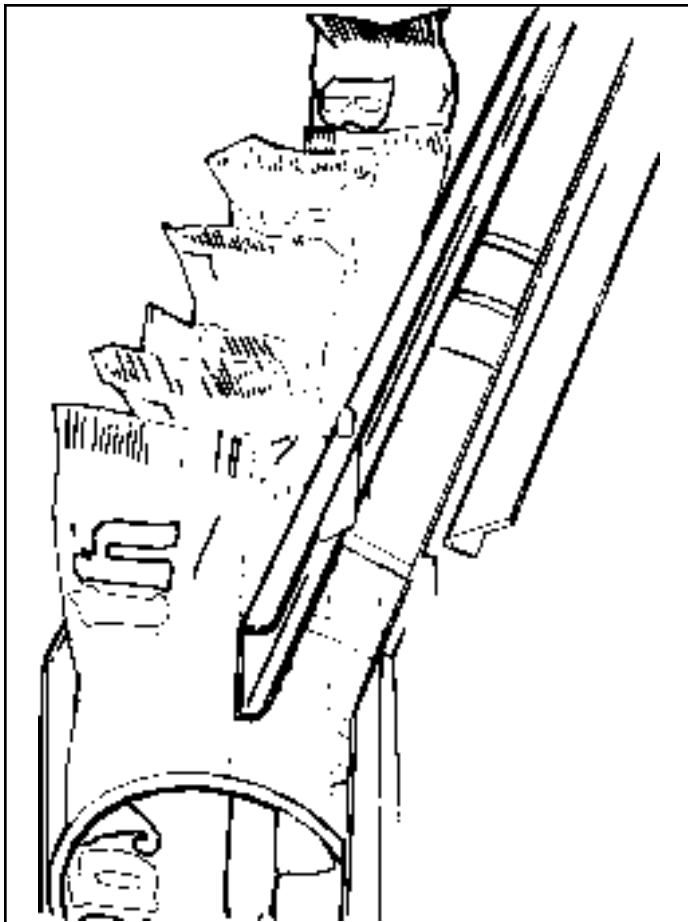

Figure 6. 10-selection shelf product spacer positioned to hold candy upright.
7. Product Spacers, 10-selection shelf. The 10-selection shelves are equipped with a product spacer (Figure 6.) that can be pivoted from the right side of each product space. These spacers should be pivoted out to hold the product upright, but not tight against the product. Leave about 1/8" clearance between the spacer and the product.